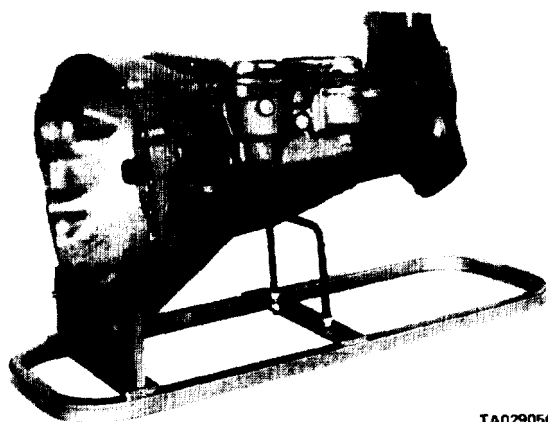

Figure 18-5. Transmission Installed in Repair Stand.
(1) Place the transmission assembly in a repair stand (figure 18-5), or securely position it on blocks.